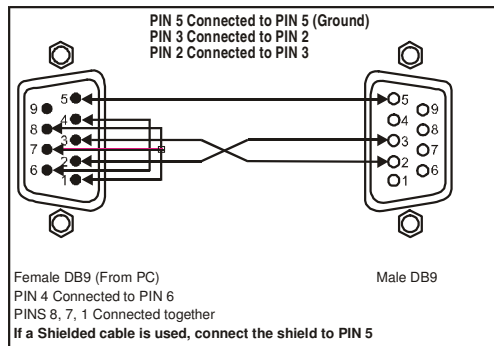

Figure 7: Connecting a PC without using a Null-modem Adapter
- Connect the RS-232 DB9 port on your PC to the RS-232 DB9 rear panel port on the Master **VS-88HC** unit, as Figure 7 illustrates